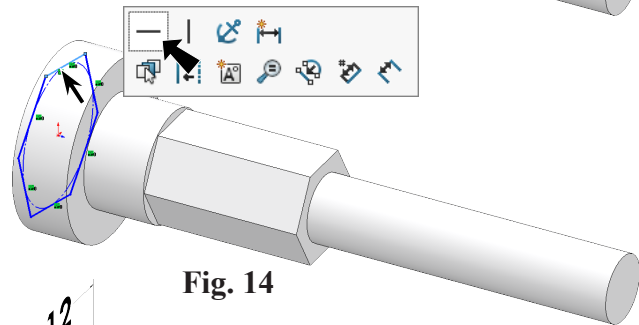
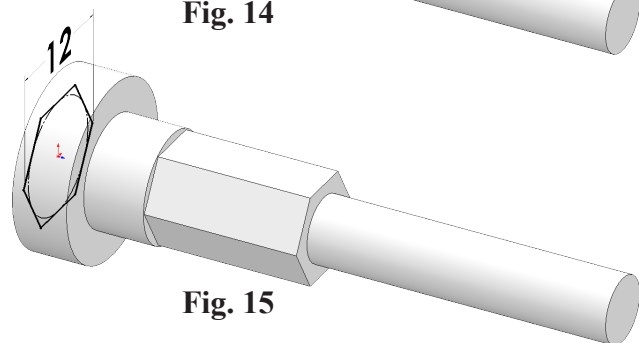

Fig. 14
Fig. 15
Step 5. Click a **polygon segment** and click **Make Horizontal**  on the context toolbar, **Fig. 14**.
Step 6. Click **Smart Dimension**  (S) on the Sketch toolbar.
Step 7. Dimension **12** across corners, **Fig. 15**.